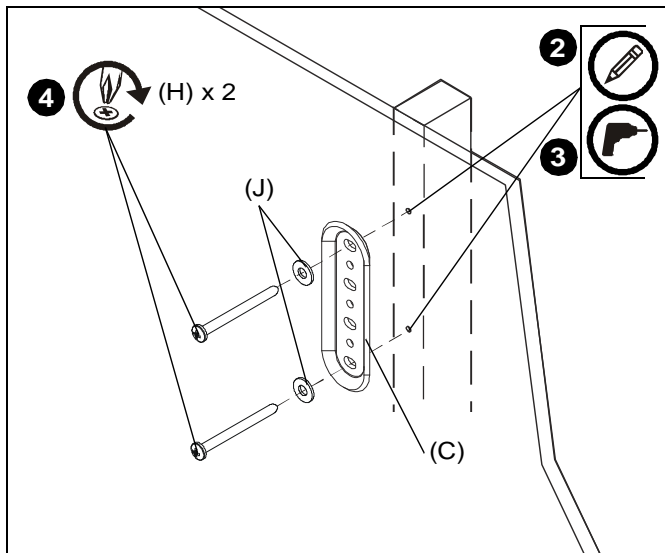
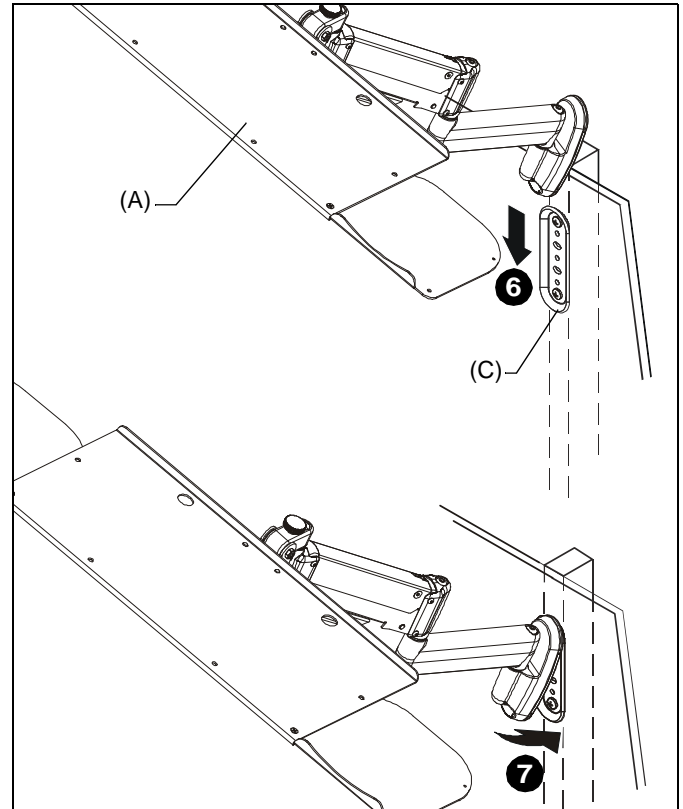

Figure 1
Figure 2
2. Using wall plate (C) as a template, mark location for two pilot holes through top and bottom holes of wall plate. (See Figure 1)
3. Drill two 1/8" diameter pilot holes through marked locations into wall structure. (See Figure 1)
4. Loosely install two #10 x 2-1/2" Phillips pan head screws (H) through two #10 washers (J), wall plate (C), and drywall into wood stud. (See Figure 1)
5. Ensure wall plate (C) is vertical, then tighten screws (H).
6. Insert top of KWK-110 (A) over lip at top of wall plate (C). (See Figure 2)
7. Swing KWK-110 down flush against wall. (See Figure 2)